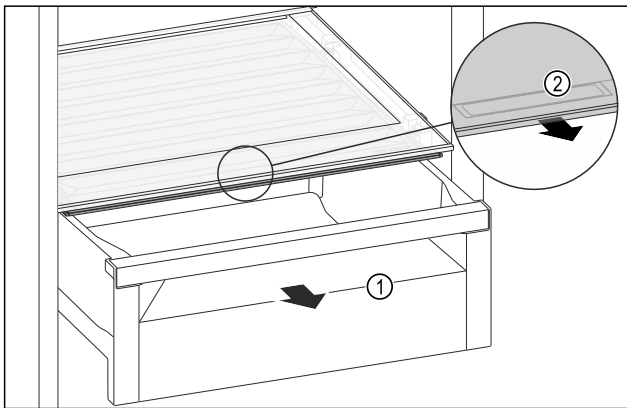

Fig. 220
- ▶ Pull out the drawer Fig. 220 (1).
- ▶ Grasp the recessed grip Fig. 220 (2) on the compartment lid and pull the compartment lid forwards at the same time.